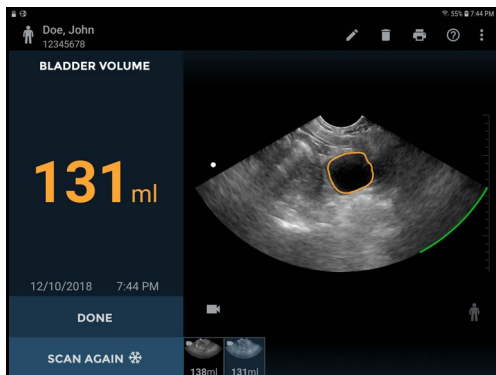

FIGURE 20. Measured volume
- During acquisition, the display will show the fan position. When the three dimensional data acquisition is complete, the **System** automatically completes the scan and displays the measured volume (see FIGURE 20. Measured volume).